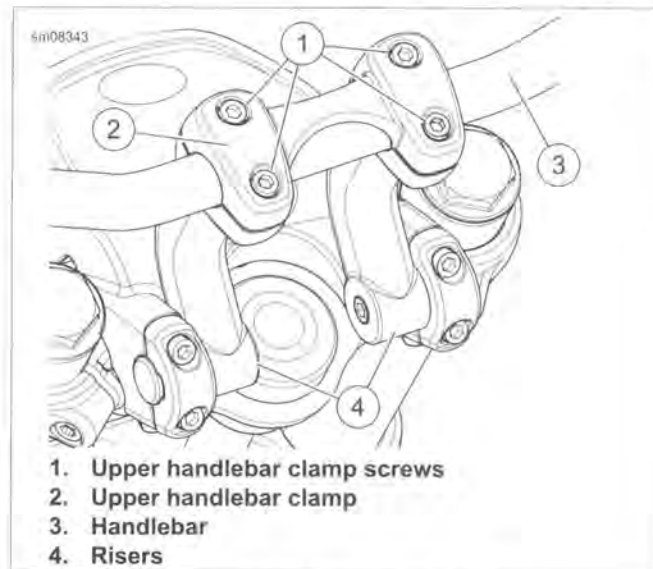

Figure 2-129. Handlebar: FXDL
11. See Figure 2-129. Remove upper handlebar clamp fasteners (1).
12. Remove upper handlebar clamp (2).
13. Remove handlebar (3).
10. See Figure 2-129. Place handlebar (3) on handlebar risers (4). Install upper handlebar clamp (2). Install but do not tighten upper clamp fasteners (1).
18. Mark center of hand grip (2).
22. See Figure 2-129. Tighten upper handlebar clamp: